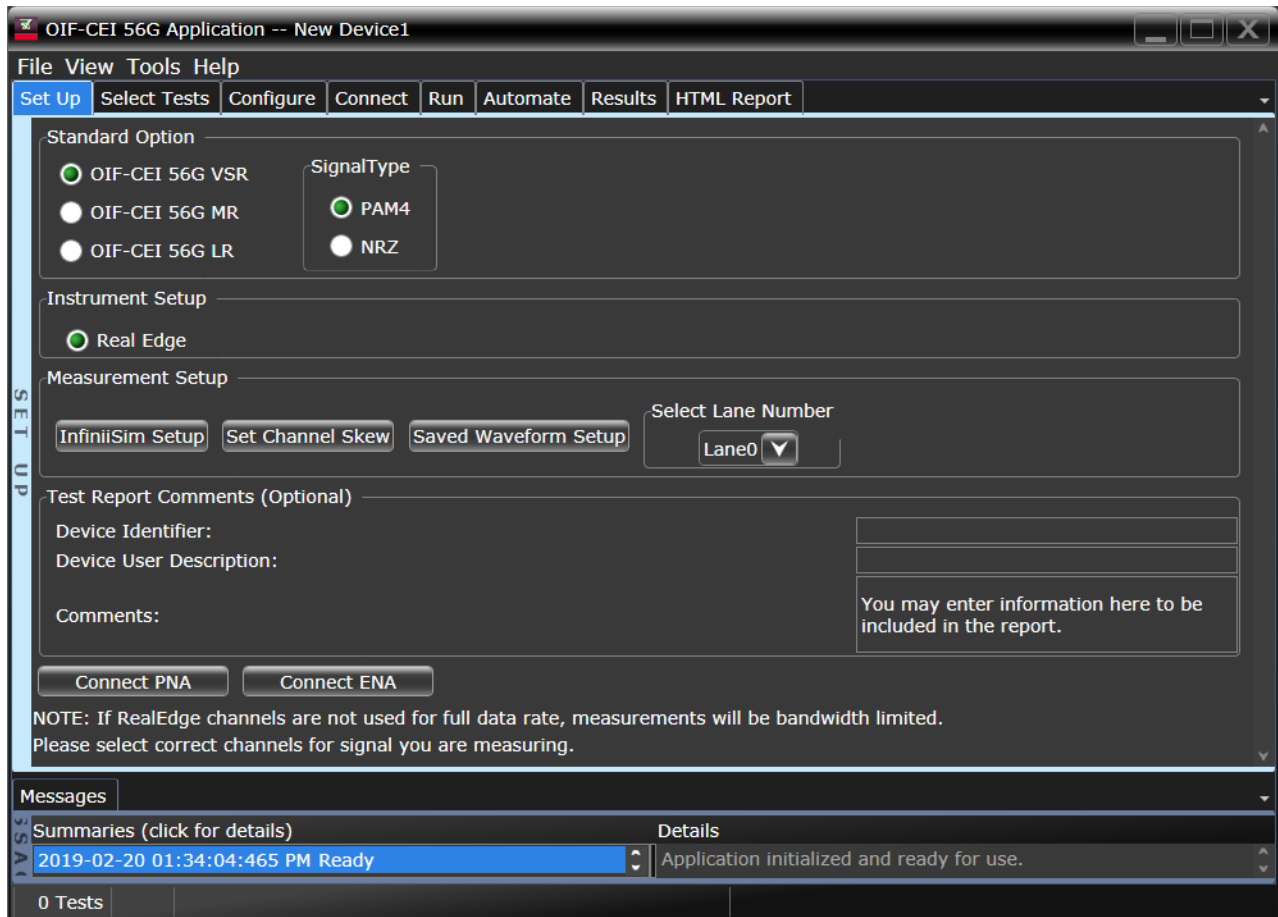
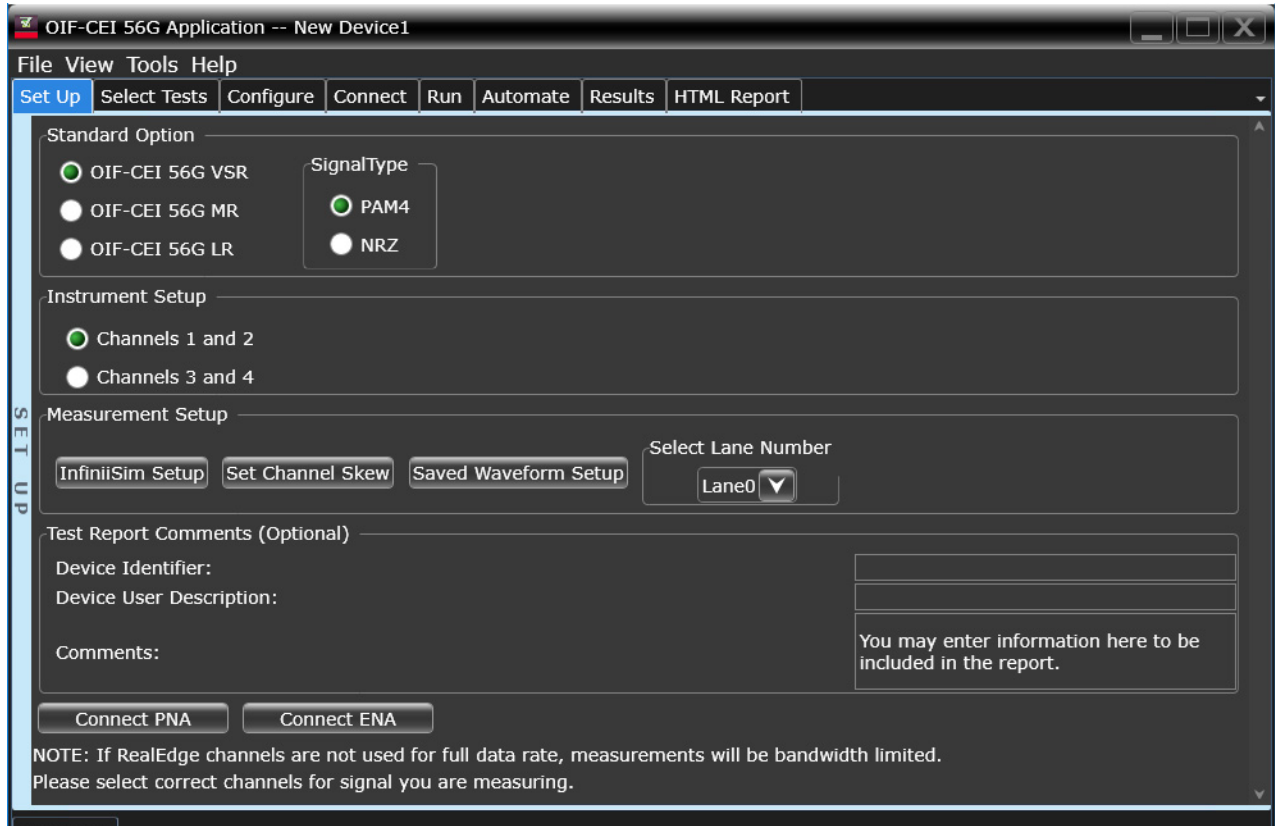

Figure 5 OIF-CEI 56G VSR/MR/LR Test Application main window on a Z-Series DSO
Figure 6 OIF-CEI 56G VSR/MR/LR Test Application main window on a UXR Oscilloscope
- **Figure 5** shows the Keysight D9010CEIC OIF-CEI 56G VSR/MR/LR Test Application window as it appears when launched within the Infiniium application of the DSO Z-Series Oscilloscope. The Instrument Setup area in the Set Up tab displays Real Edge, which indicates Channels 1R and 3R on the oscilloscope.
- **Figure 6** shows the Keysight D9010CEIC OIF-CEI 56G VSR/MR/LR Test Application window as it appears when launched within the Infiniium application of the UXR Oscilloscope. The Instrument Setup area in the Set Up tab displays the corresponding Channel assignments.
- 1 In the **Set Up** tab (shown in Figure 5 and Figure 6), select the **Standard Option** and **SignalType** to filter the test groups in accordance with the connected DUT.
- 4 In the **Connect** tab, view the instructions along with the connection diagram to ensure that all requirements for the physical setup of the testing instruments and the DUT are met. Click **Connection Completed** to indicate to the Test Application that the required hardware setup is complete. The connection diagram for most of the tests matches the one shown in Figure 5 for DSO-Z Series Oscilloscopes and Figure 6 for UXR Series Oscilloscopes. However, it is a good practice to verify the connection diagram and instructions displayed under this tab. The Test Application automatically indicates any changes in connections, if needed, during test runs.